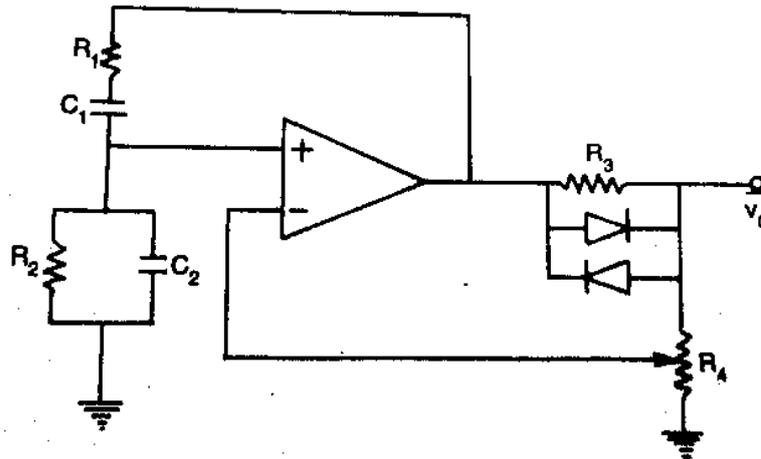

Fig. 3.43 Practical Wien Bridge Oscillator with adaptive negative feedback
- And, for $A_v > 3$, the oscillations will be growing. This problem is eliminated by a practical Wien bridge oscillator with adaptive negative feedback as shown in Fig.3.43.